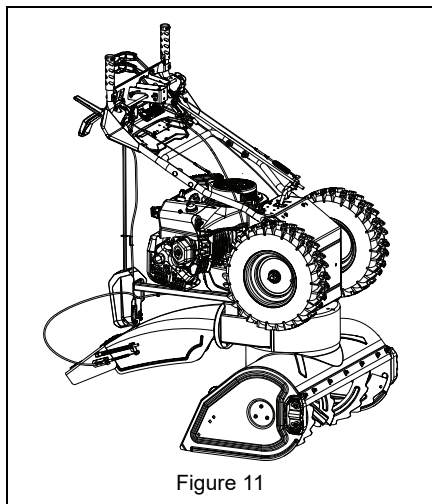

Figure 11
See Figure 11.
1. Place unit in service position (see Figure 11).